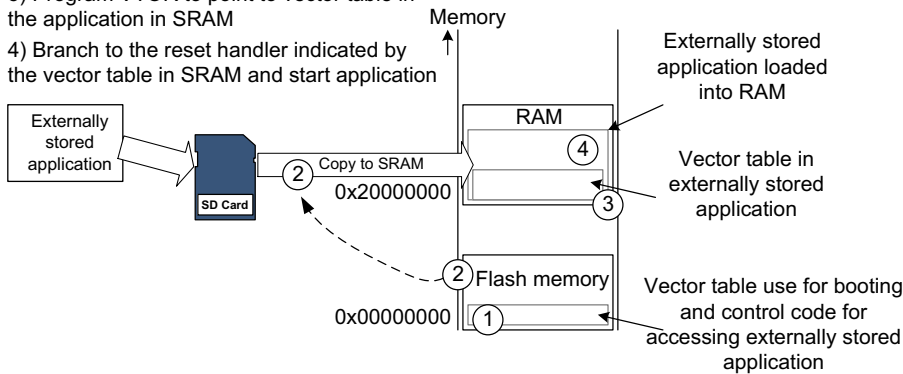

FIGURE 7.13
2. Applications load into RAM (Figure 7.13)